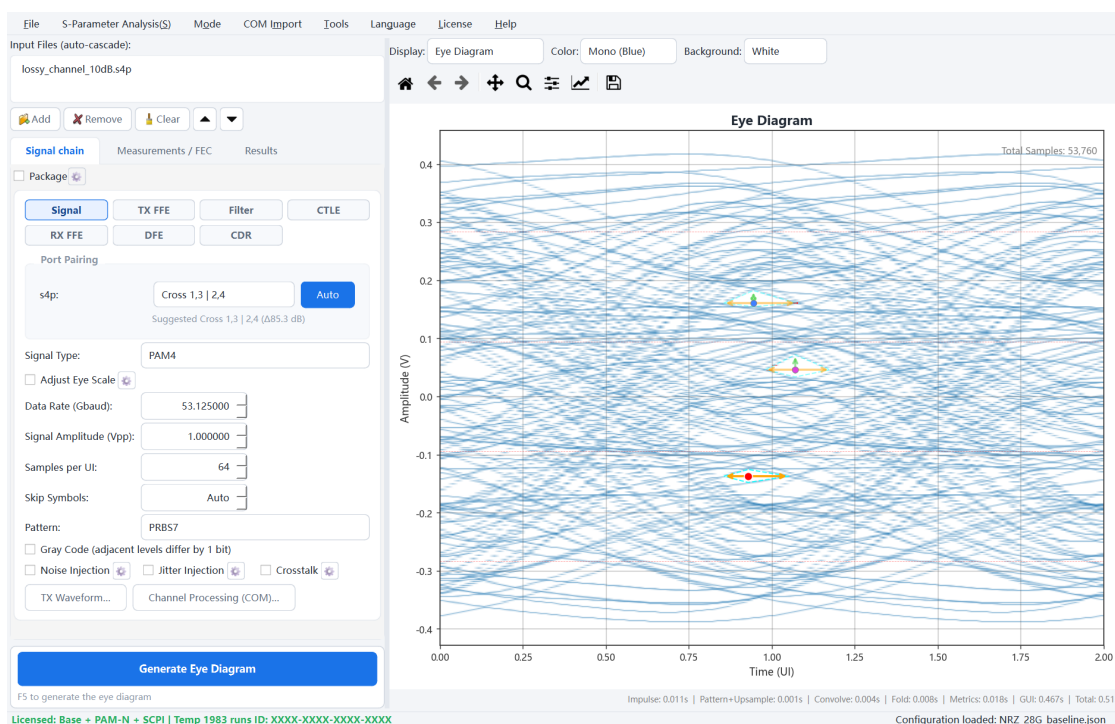

Fig. 3-1 Lossy channel, no equalization: eyes closed
Step 3 Click "Generate Eye Diagram". This time all three eyes are nearly shut (Fig. 3-1) — heavy loss plus high speed causes severe inter-symbol interference.